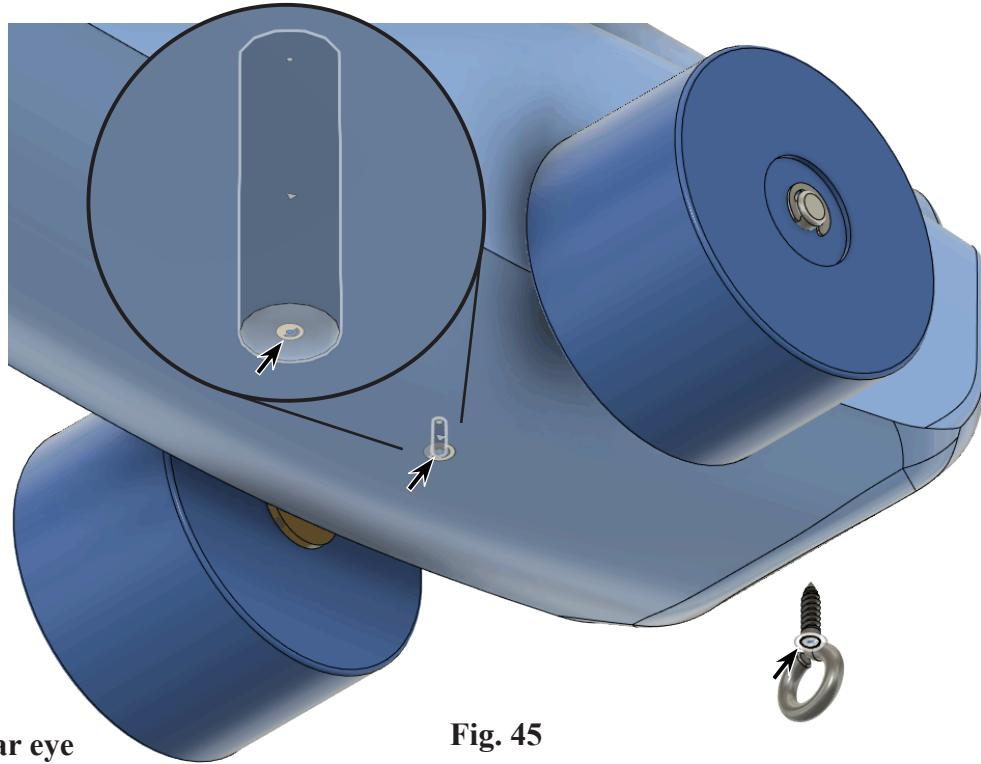

Fig. 45
Step 5. Click **Joint**  (J) in toolbar.
Step 6. Click cylindrical edge at end of sweep on the Eye Screw for Joint Origin  and edge of rear eye screw hole in Body for Joint Origin , Fig. 45.